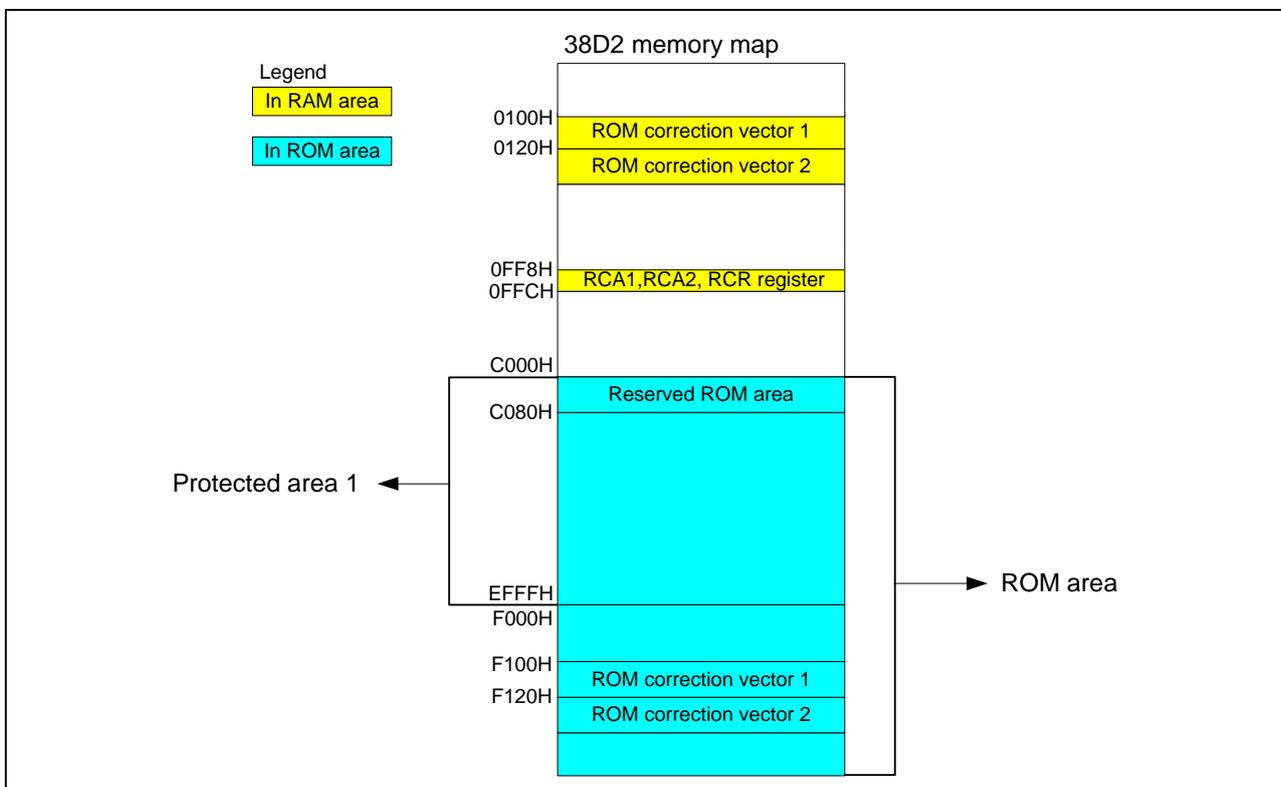

Figure 1 ROM Protected Area
- 38D2 Group is equipped with a ROM correction function (QzROM rewrite function), in which program codes can be written once, and blank non-protected ROM areas are available to rewrite correct codes. For example, in Figure 1, the original program code can be written to protected area 1 and the operation code for ROM correction can be rewritten to the non-protected blank ROM area starting from F000H.